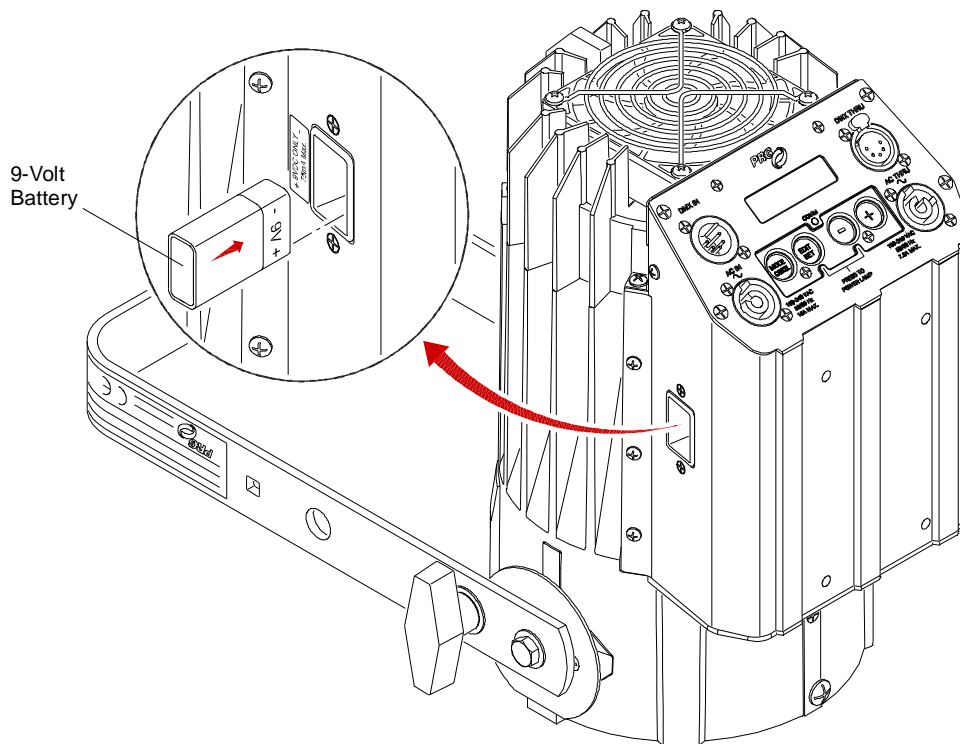

Figure 6: 9-Volt Battery Port
- Step 1. At side-port, insert and hold 9-volt battery (**Figure 6**). (Polarity does not matter. The battery can be inserted in any orientation.) *Battery must be held in place to supply power.*